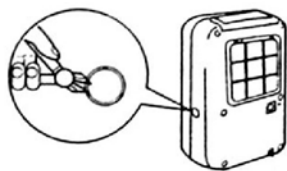

Fig. 4
1. Remove the drainage tank and open the continuous drainage port. Use snipers or a similar tool to cut away the continuous drainage cap in the side of the main unit. (see Fig. 4)